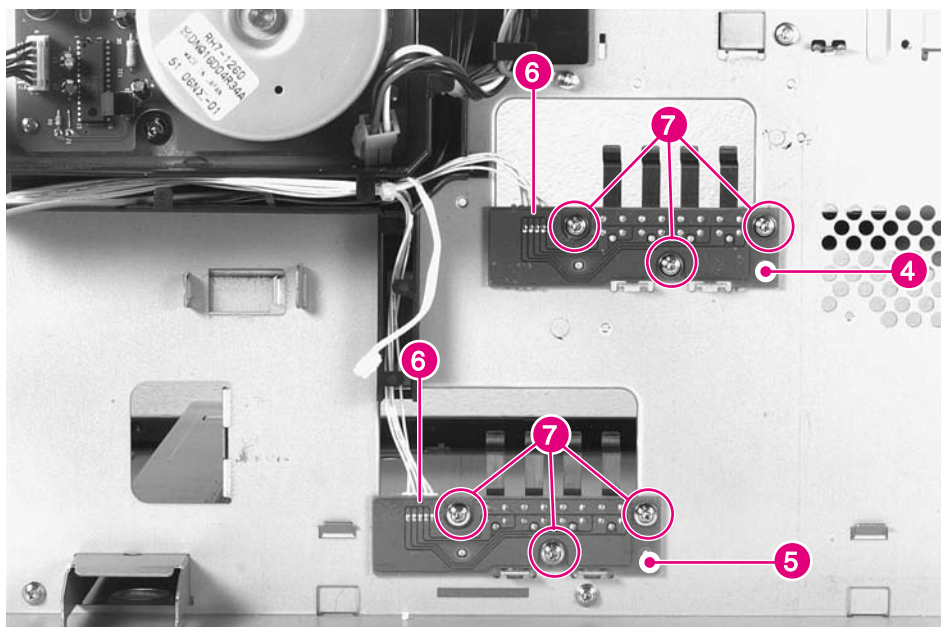

Figure 6-49 Paper Size PCA (2 of 3)
The Paper Size PCA for Tray 2 (figure 6-49, callout 4) is identical to the PCA for Tray 3 (figure 6-49, callout 5). The removal procedure for both PCAs is the same.
- 3 Unplug the connector (figure 6-49, callout 6), remove 3 screws (figure 6-49, callout 7), and remove the PCA and actuating fingers.